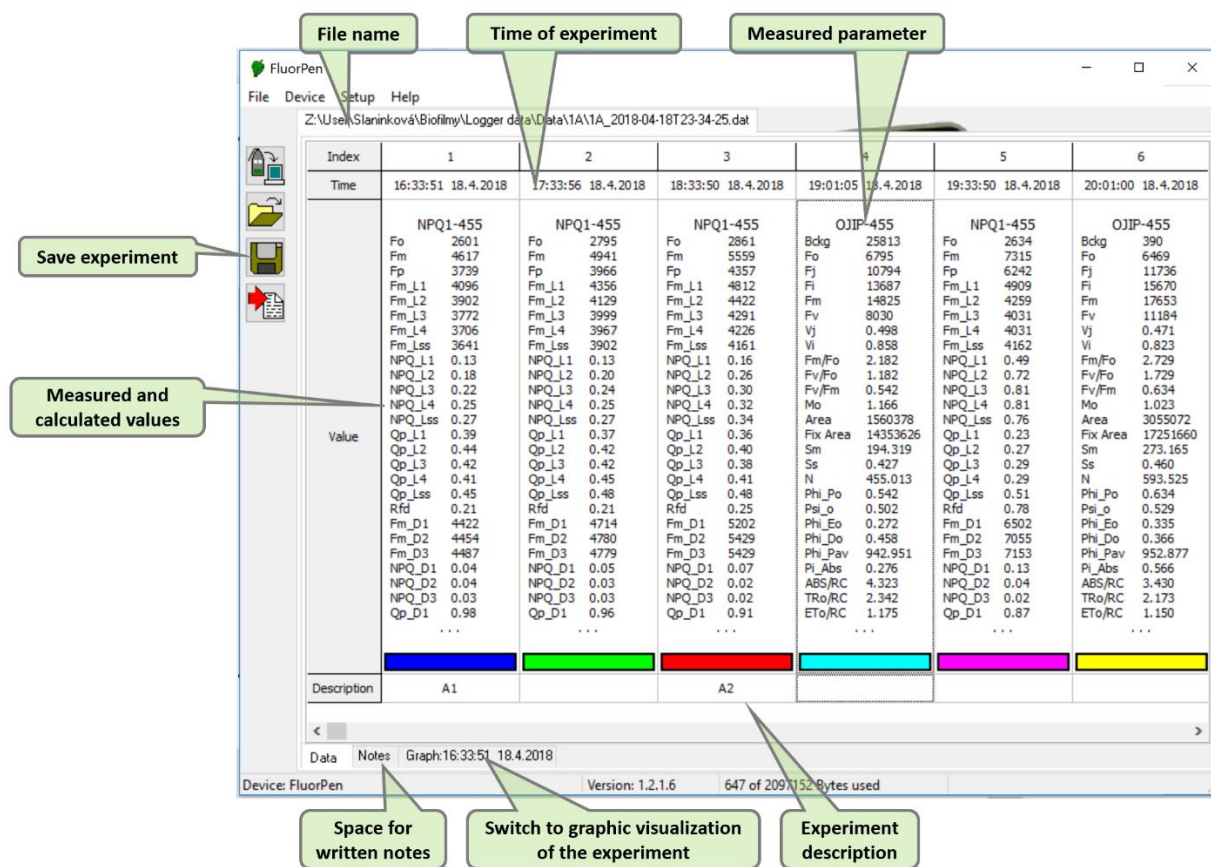

Fig. 26 Example of data transfer and visualization.
3. Once the download is complete the Data can be visualized in a table shown below (Fig. 26).